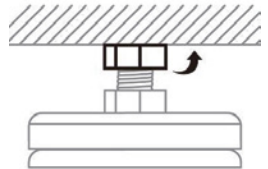

Figure 3
- 3. Once the height has been adjusted, tighten the upper nut to lock the feet in place. See figure 3